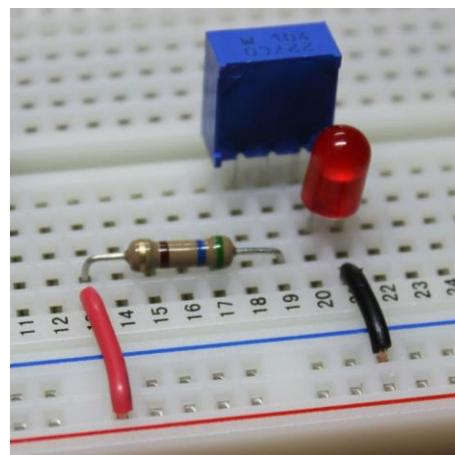

Figure 3. Circuit for adjusting brightness of a LED
4. Insert the 100,000 ohm pot, with the middle pin in the same row as the 560 ohm resistor (look at Figure 3 for